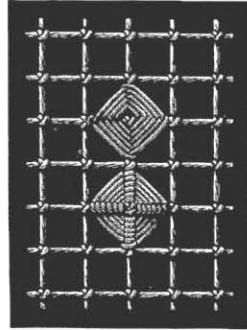

Fig. 34. Ribbed lozenges.
**Ribbed lozenges** (fig. 34). — For these lozenges no foundation is required; the back-stitches are made directly on to the bars of the net. Both sides of the wheels and lozenges can be used in a piece of work; the engraving shews both the wrong and right side.